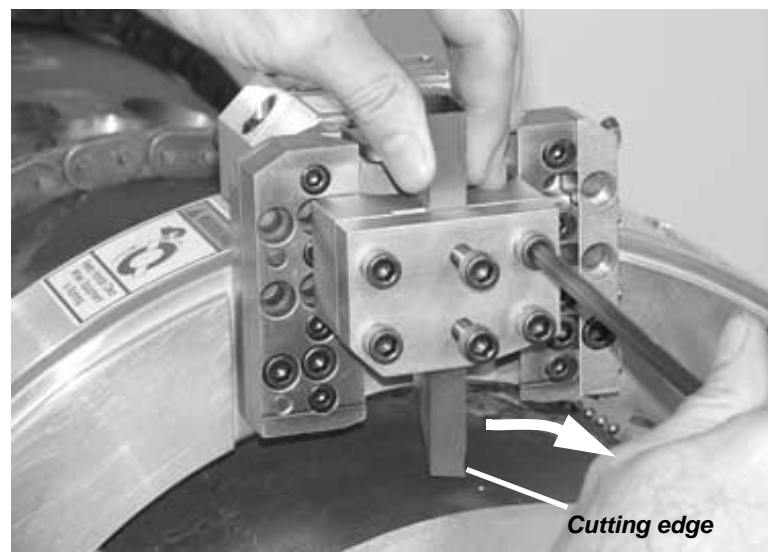

Figure 5-31. Insert the bevel tool in the holder with the cutting edge in the direction of rotation.
5. Insert the beveling tool with the cutting edge in the direction of rotation, as shown in Figure 5-31.